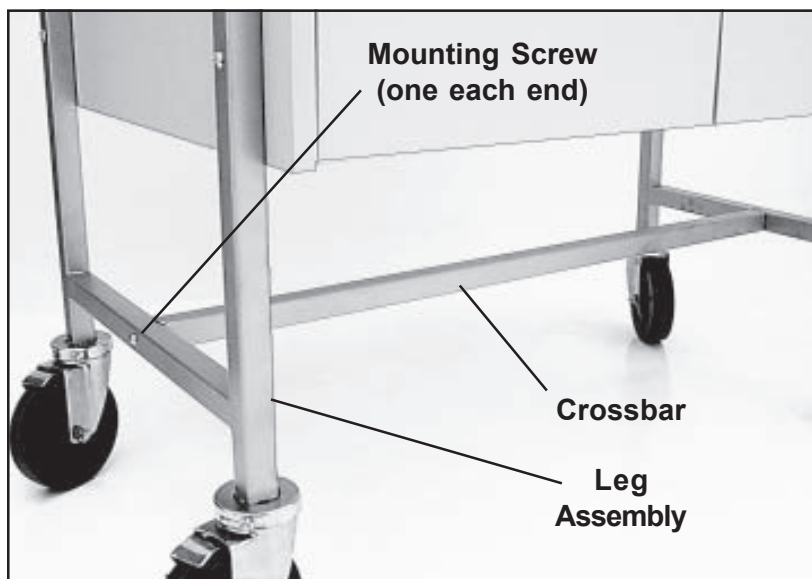

Figure 31. Crossbar and Mounting Screws
1. With a flat-blade screwdriver, remove both crossbar mounting screws (Figure 31), and remove the old crossbar from the table.
4. With a flat-blade screwdriver, remove the crossbar mounting screw (Figure 31), and disconnect the crossbar from the leg assembly being replaced. Leave the crossbar attached to the opposite leg assembly.